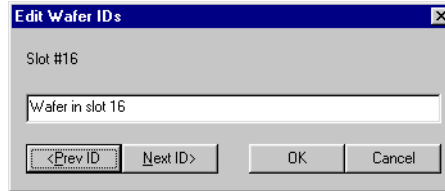

Figure 4-4: Edit Wafer IDs Dialog Box
5. If a Wafer ID needs to be edited, double-click the ID to display the Edit Wafer IDs dialog box (Figure 4-4).